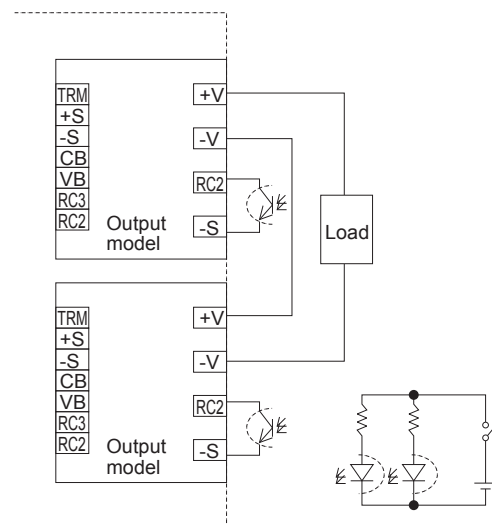

Fig.2.2 Example of remote control circuit in series operation
- ①The output stops when the current is down in RC3. The current drowning RC3 is less than 12mA.
- ②Built-in fans do not stop even if the output is turned off with remote ON/OFF circuit.
- ③The IOG signal is output when the output voltage is turned off with remote ON/OFF.
- ④You should be careful of electric potential in series when you wire the remote control circuit,since it is not insulated from the output. Example of a circuit in series is shown in Fig.2.2.